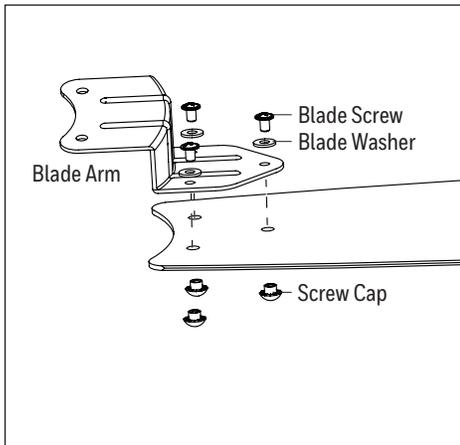

Figure 5.4
4. Attach the blade to the blade arm using blade screw, blade washer and screw cap from the hardware kit. Repeat for each blade (Figure 5.4).